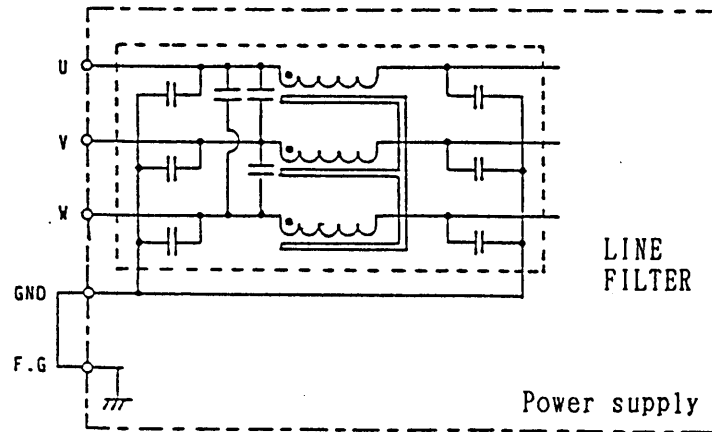

Figure 2-2
- o The F.G is connected to the chassis of the power supply. The GND is connected to the ground line of the built-in line filter as shown in Figure 2-2.